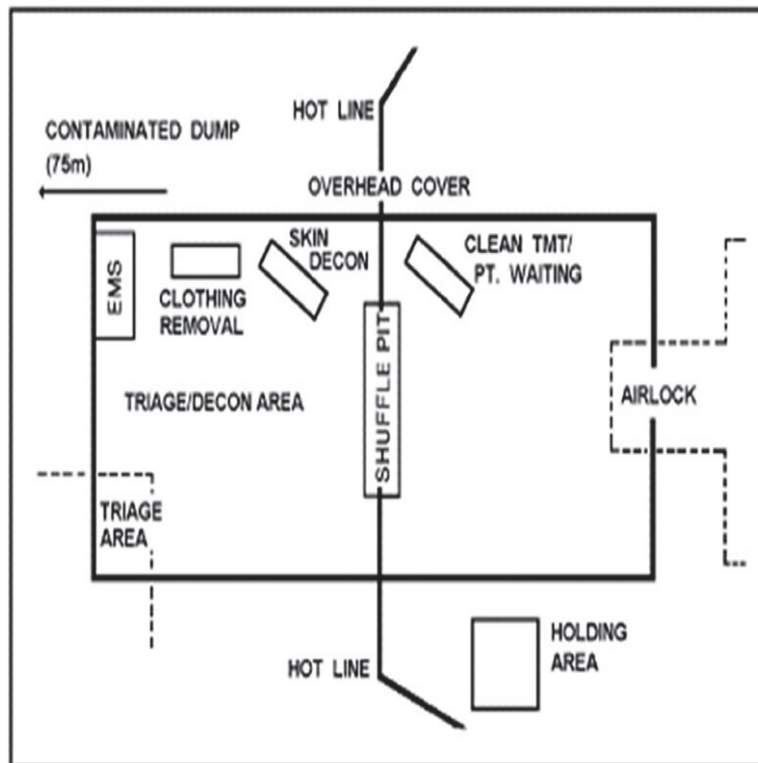

Figure 3-6. Decontamination area
2. Set up the decontamination area. (See Figure 3-6.)